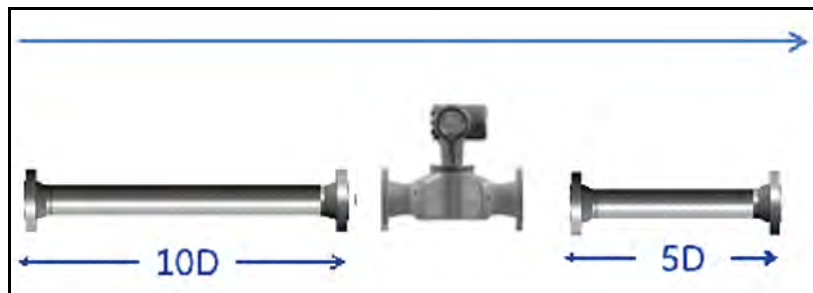

Figure 6: Flow Direction
- Locate the meter body so that there are at least 10 pipe diameters of straight, undisturbed flow upstream and 5 pipe diameters of straight, undisturbed flow downstream from the measurement point (see *Figure 6* below). Undisturbed flow means avoiding sources of turbulence in the fluid such as valves, flanges, expansions, and elbows; avoiding swirl; and avoiding cavitation.